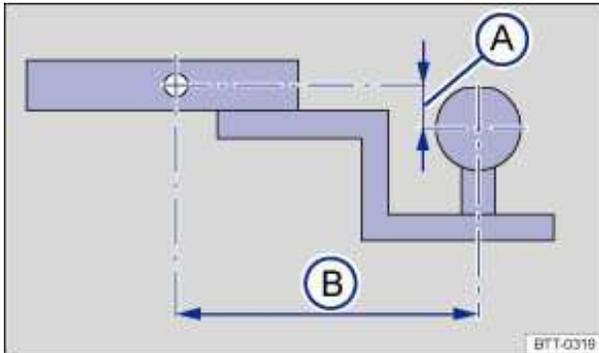

Fig. 107 Dimensions of the ball mount support.
The receiver used requires both a ball mount and a ball that meet special requirements regarding geometry and size. This applies to both the height of the ball above the surface where it attaches ⇒ fig. 107 \(A\), and the pin-to-ball distance (B).